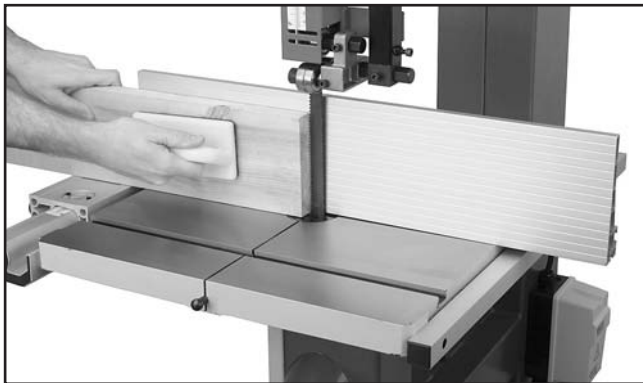

Figure 54. Example of resawing lumber.
"Resawing" (Figure 54) is cutting a workpiece into two or more thinner workpieces. Use the widest blade possible when resawing—a wide blade cuts straighter and is less prone to blade lead (see Page 42). For most applications, use a blade with a hook- or skip-tooth style. Choose blades with fewer teeth-per-inch (from 3 to 6), because they offer larger gullet capacities for clearing sawdust, reducing heat buildup and reducing strain on the motor.
6. Using push paddles and a push stick, keep pressure against the fence and table, and slowly feed the workpiece into the moving blade until the blade is completely through (see Figure 54).